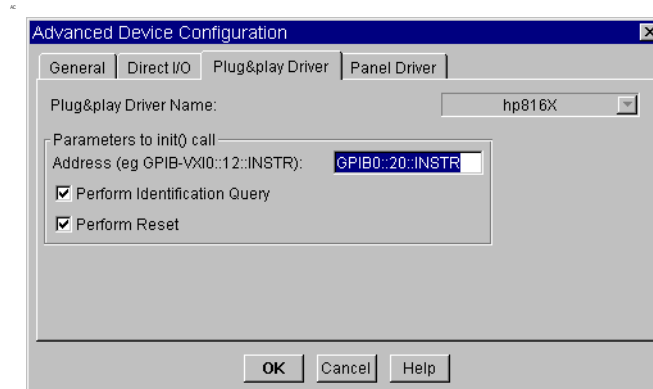

Figure 6 Advanced Device Configuration - Plug&play Driver
- 4 Press Advanced I/O Config ..., the Advanced Device Configuration box pops up. Select the Plug&play Driver tab, the box in Figure 6 appears.